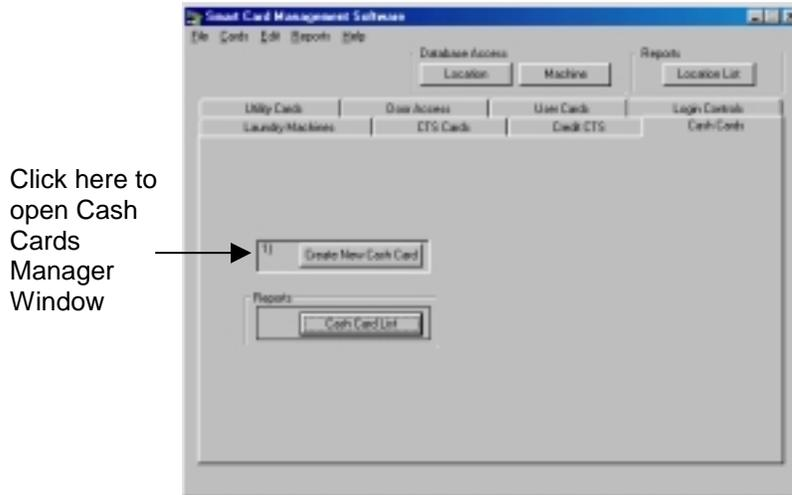

Figure 12.1 Opening the Cash Cards Manager Window
1. Click the Create New Cash Card button in the Cash Cards tab (Figure 12.1).